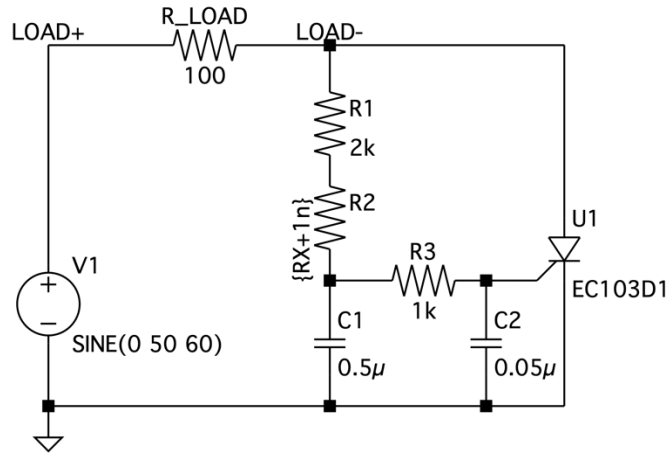

Fig. 2.8 Experimental circuit for Part C
- Construct the experimental circuit shown in Fig. 2.8. The value of R2 is a parameter {RX+1n}. R2 will simulate a 100k Ω potentiometer. Set the voltage source V1 to be SINE(...) with an amplitude of 50V and frequency of 60Hz.